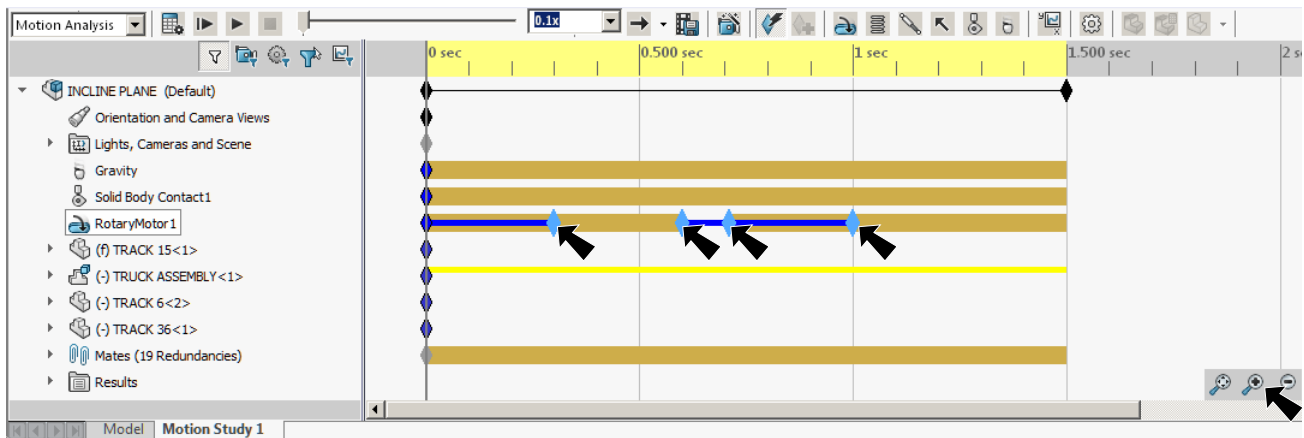

Fig. 4
Step 1. Click **Zoom in**  in lower right corner of the Motion Manager to increase the Time Bar with finer time increments, Fig. 4.
Step 2. Delete all the Key Points  in the RotaryMotor2 Timeline. To delete Key Points, **Ctrl click** all the Key Points  in the RotaryMotor2 Timeline and press **Delete** key on keyboard, Fig. 4.